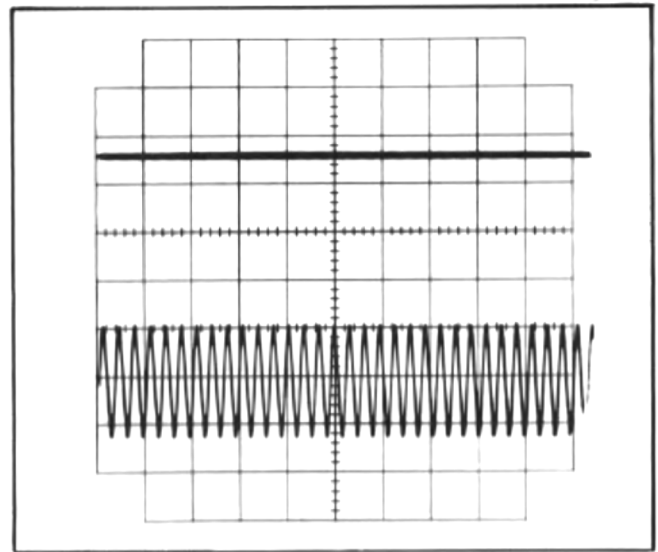
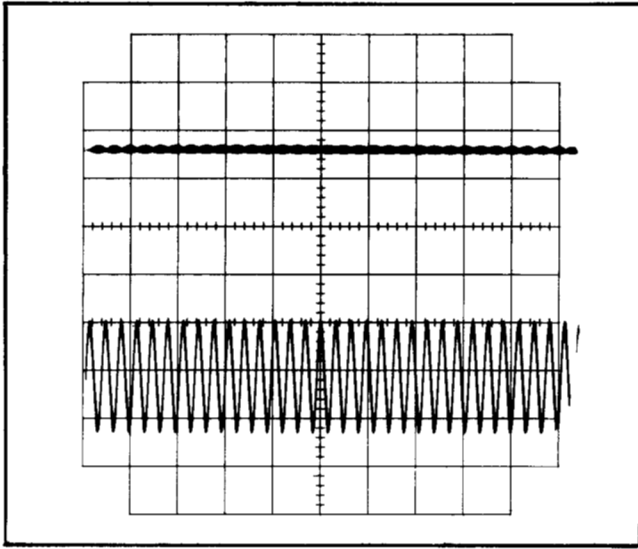

Fig. 5-3. Display appearance with C808 correctly adjusted.
Fig. 5-4. Display appearance with C808 grossly misadjusted.
3. Reset the lower beam plug-in VOLTS/DIV. as required to obtain a 2 to 4 major division display of the oscillator signal. See Fig. 5-3. Set Upper Beam INTENSITY for a dim display.
4. The Upper Beam display should be a straight, defocused line as in Fig. 5-3. If the trace exhibits alternate light and dark segments as in Fig. 5-4, adjust C808 to minimize this appearance.